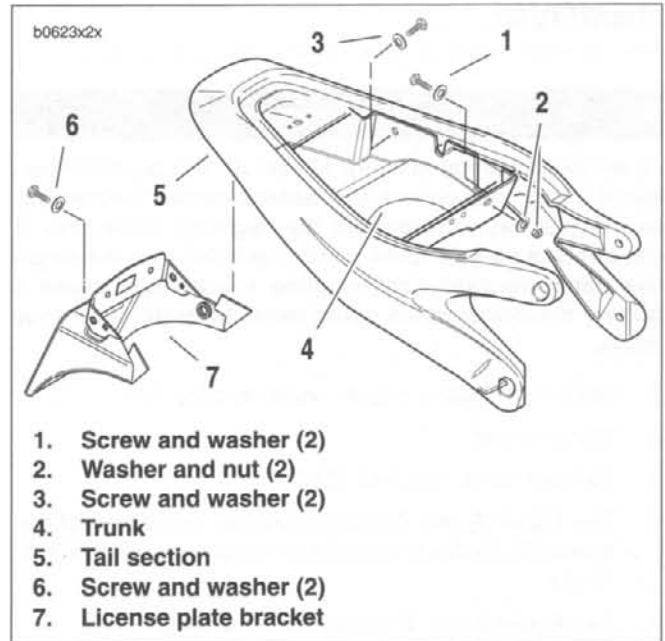
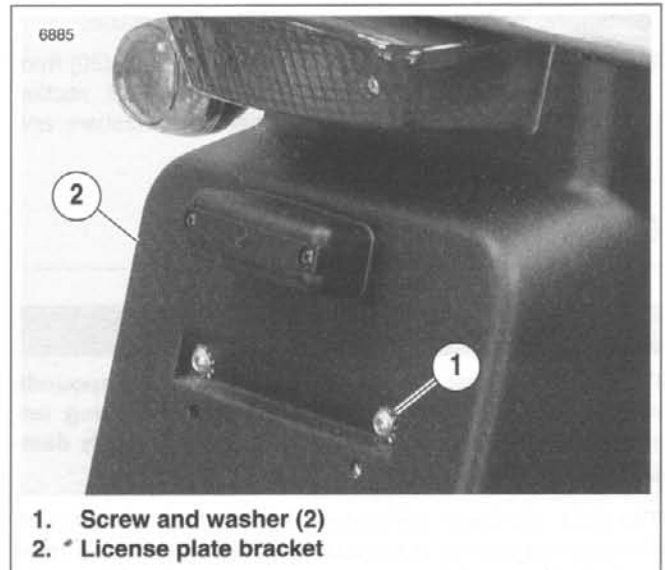

Figure 2-163. Tail Section with Trunk
Figure 2-164. License Plate Bracket
1. See Figure 2-163. Remove two screws and washers (1) and nuts and washers (2) securing front of trunk (4) to tail section (5).
2. Remove two screws and washers (3) securing trunk (4) to tail section (5) under edge of tail section.
3. See Figure 2-164. Remove screws and washers (1) from indentation in license plate bracket (2).
1. See Figure 2-163. Position trunk (4) in tail section (5).
2. Secure front of trunk (4) to tail section (5) with two screws and washers (1) and washers and nuts (2).
3. Secure trunk (4) to tail section (5) with two screws and washers (3) under edge of tail section.
4. See Figure 2-164. Secure trunk to license plate bracket (2) with screws and washers (1).